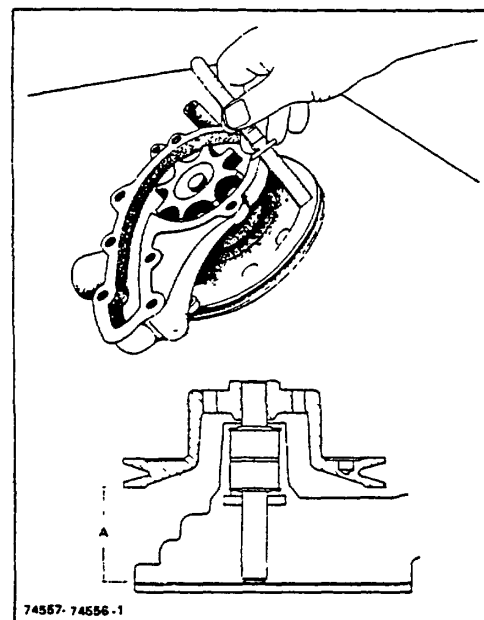
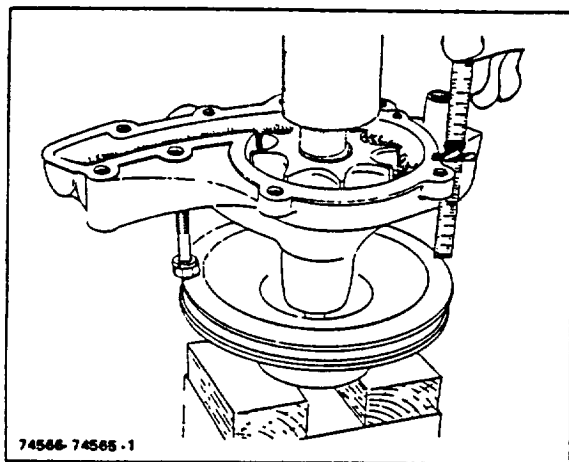

Figure 2-2. Measuring Distance Between Pump Body and Rear of Pulley Flange.
Figure 2-5. Pressing Water Pump Pulley to Correct Depth
1. Remove the back plate from the pump and measure the distance from rear of pump body to rear of pulley flange, see Figure 2-2. This measurement, "A" shown in Figure 2-2, insert, is used during pump installation.
3. Place the pulley on a flat surface, see Figure 2-5, pressing on END of shaft with arbor to dimension determined in the Disassembly section (Figure 2-2). Pulley should rotate freely.